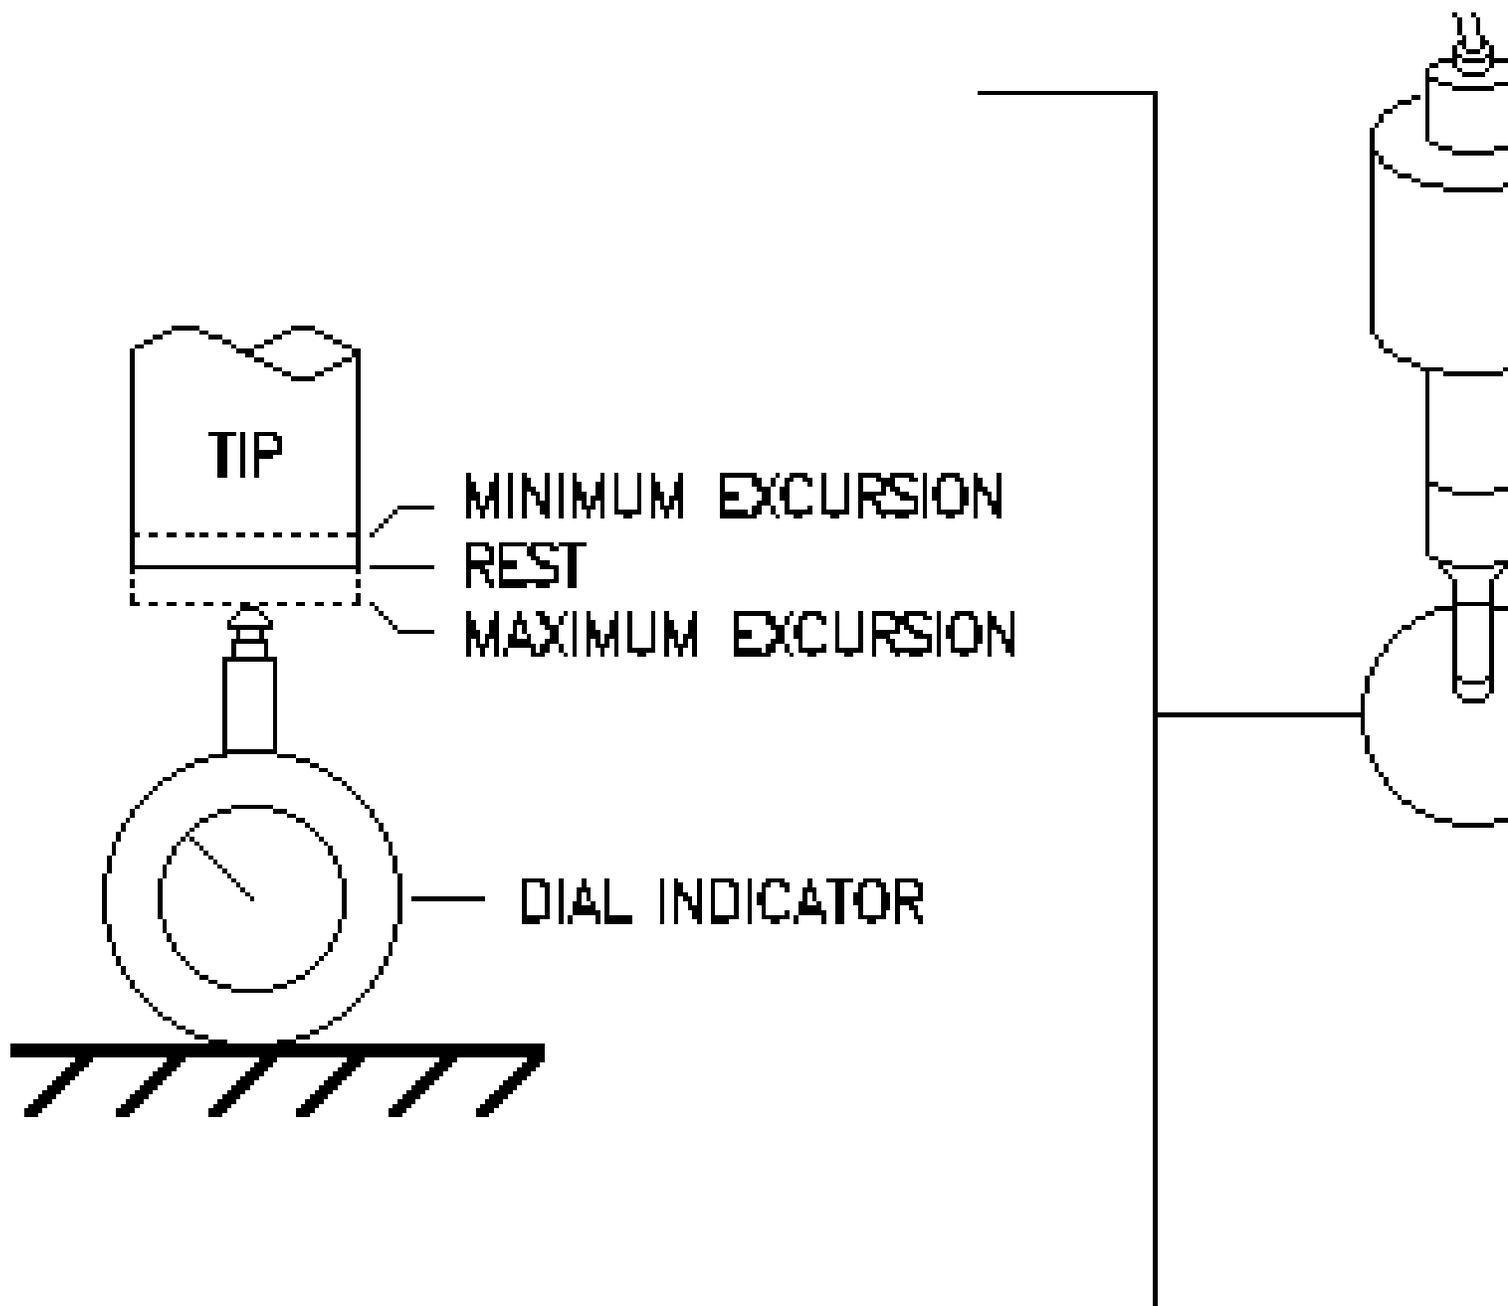

Fig. 1 - Mechanical Amplitude Meas
3.1 Originally, the dial indicator was mounted alongside the horn on a fairly rigid bracket which also held an axle for a lever projecting under the radiating face. The tip and lever were under the liquid surface and the indicator above. This complexity was occasioned by the inability of early ultrasonic disruptors/processors to maintain amplitude unloaded. With accurate constant amplitude control, these measurements can now be made in air, with the horn or tip unloaded. This technique is shown in Figure 1. The dial indicator method can be used quite effectively on large horns at moderately high amplitudes within the operating range of a dial indicator. However, the smaller the bulk of the horn and the diameter of the radiating face, the more the dial indicator gearing loads the resonant device and affects the output. In addition, too much amplitude may destroy the dial indicator bearings and gears. However, for those who wish to use this technique, the dial indicator is best nulled while the ultrasonic device is operating and the reading taken when the device is turned off. This will minimize erratic readings made while trying to null the indicator; it will prove amazing how sensitive even the most rigid indicator mounting will be. For this reason, it is absolutely critical for good results that the convertor (transducer housing) and the dial indicator be rigidly secured to a common, rigid mechanical ground. A 3" (76mm) or heavier drill press column and base, readily available from machine tool vendors, with very heavy clamps for the convertor and indicator, is recommended. If the mountings are not heavy, rigid, and secure, readings will drift.